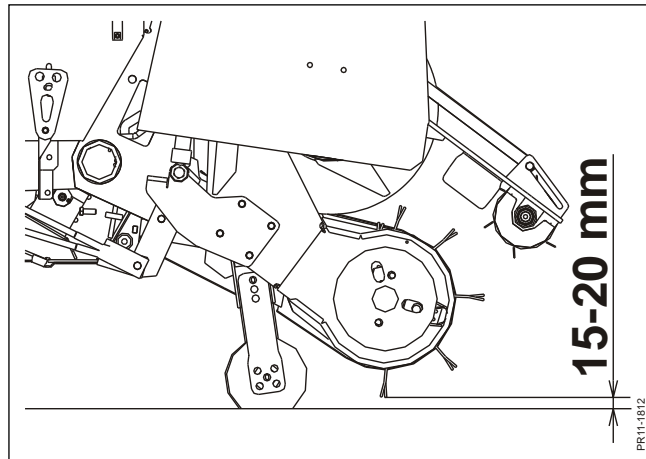

Fig. 3-3
**Fig. 3-3** The height of the rollers under the pick-up can be adjusted. Adjust the height so that there is a distance of 15 – 20 mm between the points of the pick-up tines and the ground.